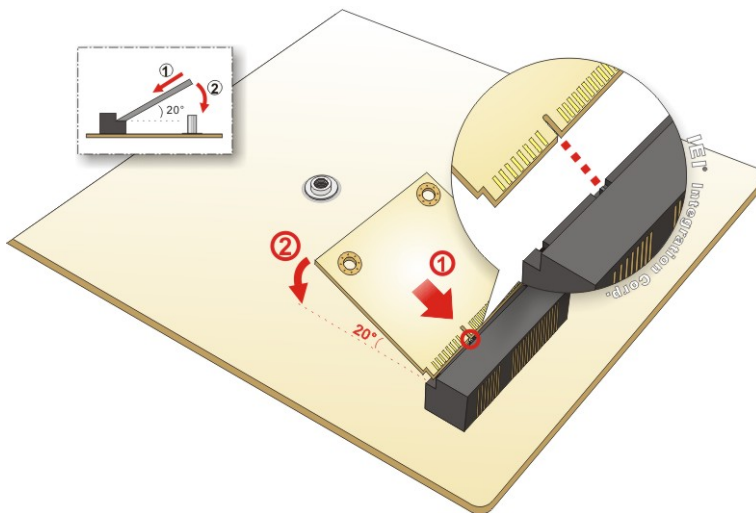

Figure 4-10: Inserting the Half-size PCIe Mini Card into the Slot at an Angle
Step 4: Line up the notch on the card with the notch on the slot. Slide the PCIe Mini card into the slot at an angle of about 20° (**Figure 4-10**).